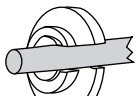
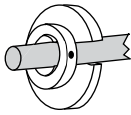

Fig. 1
Fig. 2
1. Install the alignment gage near the end of the centershaft allowing enough travel for the collet/wedges. Slide the gage over the shaft (Fig.1). Rotate the collar 180° and lock it in place with set screw (Fig. 2).